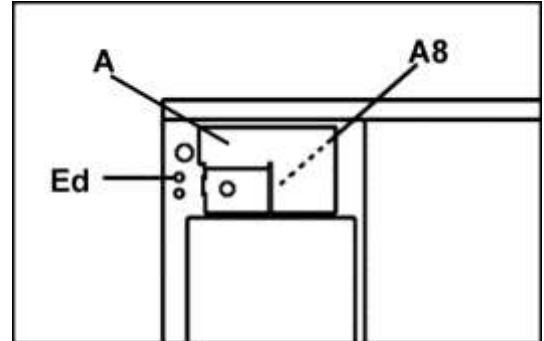

Fig. 3.14
- On the entry hole of the external dosing electrical supply (**Ed** identified in Figures 3.14 and 3.17) install a lock mechanism (not supplied with the washer) to fasten the cable or cable pipe protector, depending on the cable and pipe protector used. Refer to dimensions and connection diameter in **INSTALLATION SPECS**, section **1.4**.
The connection of the external dosing electrical signals takes place on the terminals of **A8** board, located in the electrical connection box (box which contains the switch breaker) Fig. 3.14.